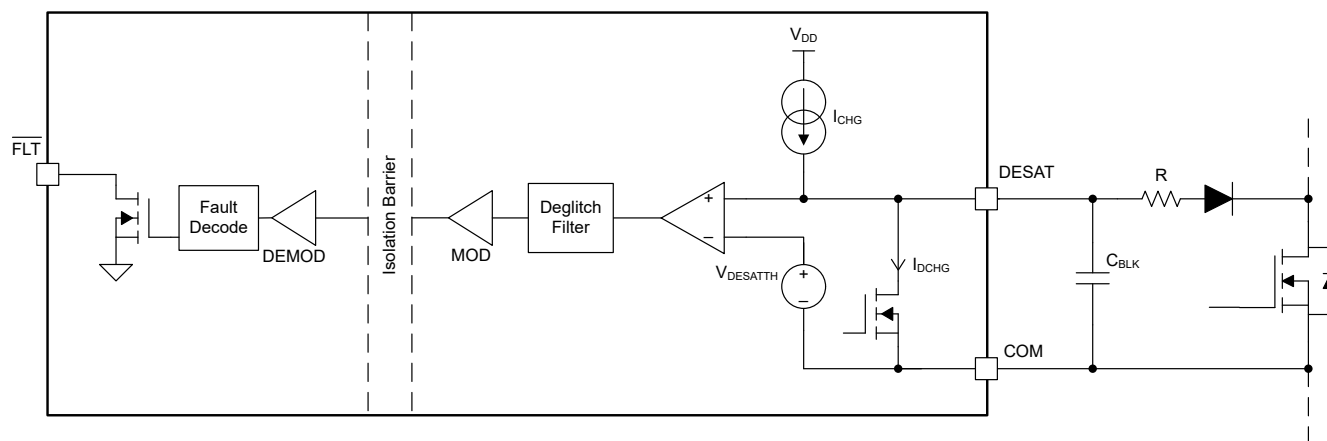
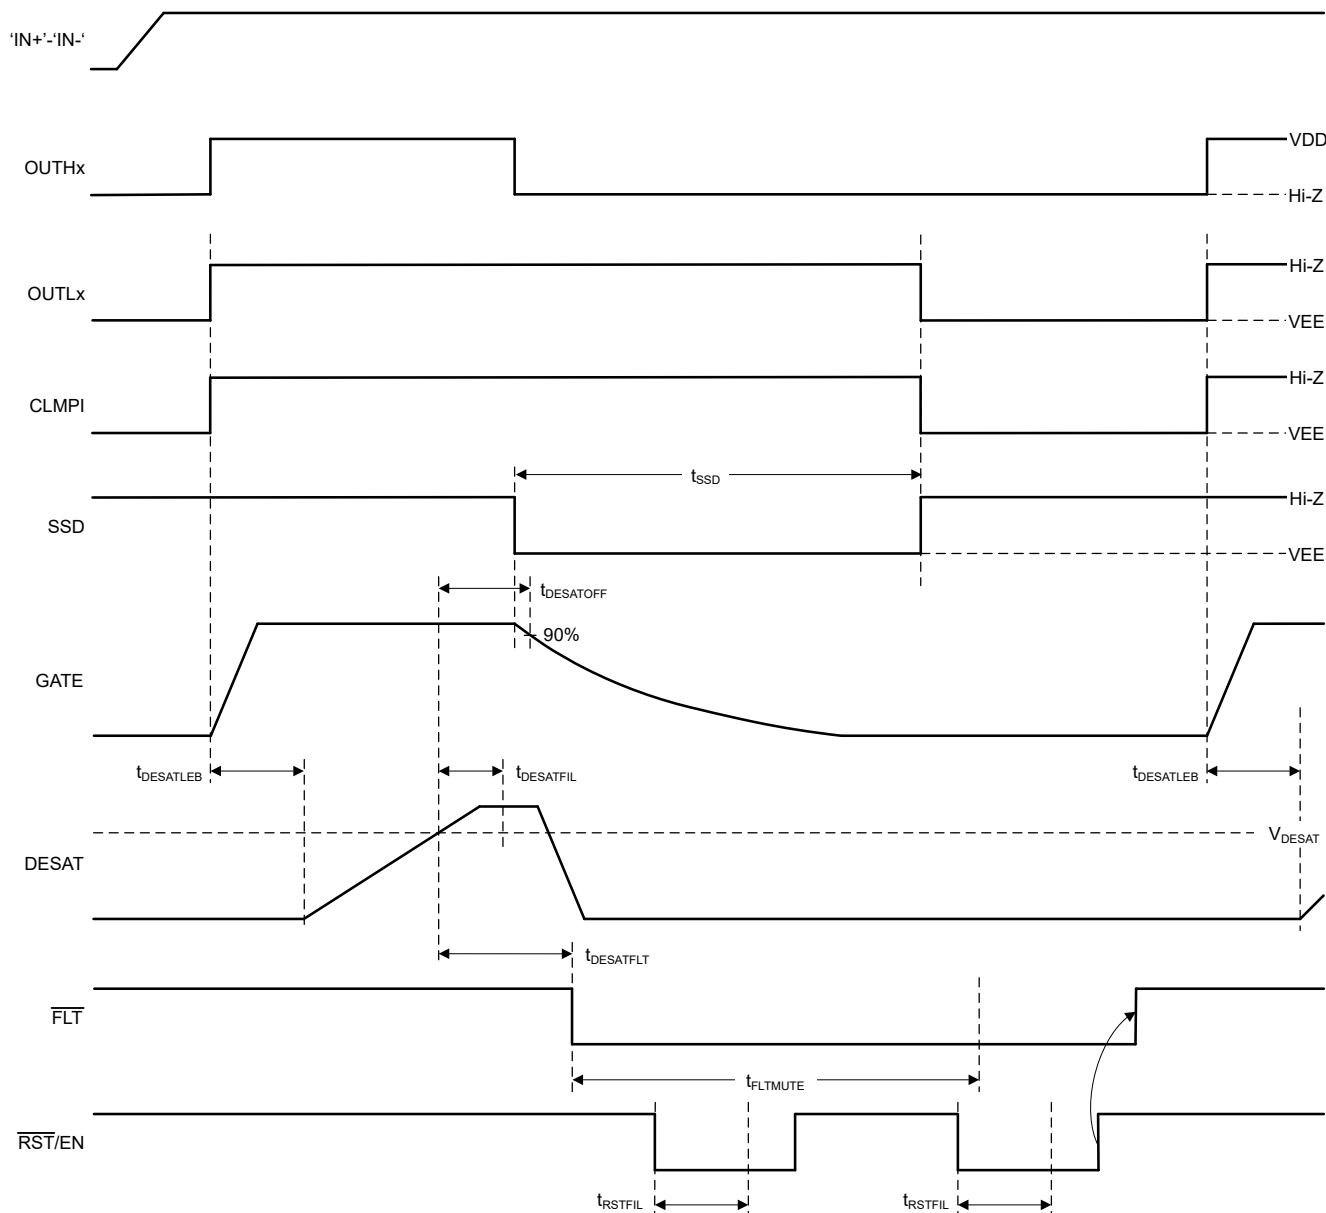
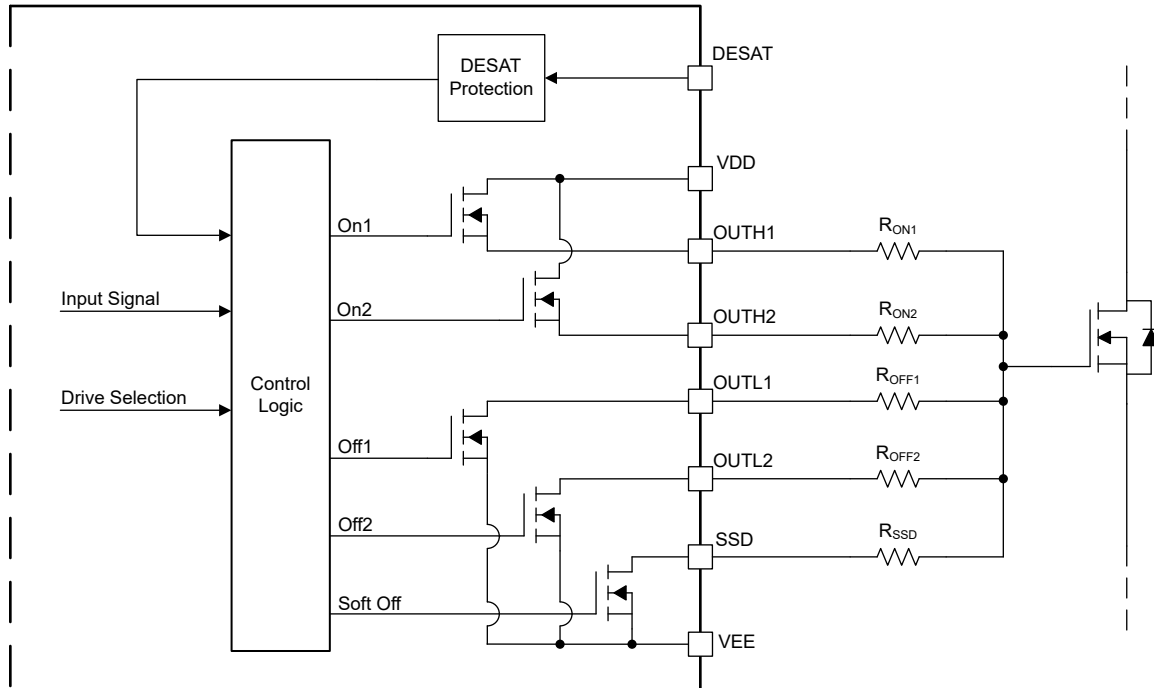

Figure 6-9. DESAT Protection
Figure 6-10. DESAT Protection Timing Diagram with Soft Shutdown
Figure 6-11. Soft Shutdown
The UCC218302-Q1 implements a fast overcurrent and short-circuit protection feature to protect the power semiconductor device from catastrophic breakdown during a fault. The DESAT pin threshold, V_{DESATTH} , is with respect to COM, the source or emitter of the power semiconductor device. When the driver is in the off state, an internal MOSFET pulls down the DESAT pin to prevent DESAT from false triggering. When the driver is in the on state, an internal current source activates to charge an external capacitor. The UCC218302-Q1 features an internal leading edge blanking time after OUTHx switches to the on state to avoid false triggers from noise during the switching transient. During the leading edge blanking time period, the DESAT pin is pulled-down by the internal pulldown MOSFET. When the driver turns off, the internal pulldown MOSFET discharges the voltage of the DESAT pin. Figure 6-9 shows a simplified block diagram of the DESAT circuit. Figure 6-10 shows timing diagrams showing a DESAT fault, soft shutdown, fault reporting, and fault reset.
When detecting a DESAT fault, the UCC218302-Q1 initiates a soft shutdown (SSD) to protect the power semiconductor device. When an overcurrent or short circuit event occurs, the SSD feature slowly discharges the gate voltage to limit the overshoot voltage on the switching device created by high di/dt due to the channel current. A tradeoff occurs between the overshoot voltage and the short-circuit energy. The turn-off speed must be slow enough to limit the overshoot voltage, but the shutdown time must not be too long that the large energy dissipation in the device can cause breakdown. The UCC218302-Q1 provides an internal pulldown FET that can be used with an external resistor to optimize the discharge current of the gate. When a DESAT fault is detected, OUTHx and OUTLx are Hi-Z so that the gate is not driven by the main driver outputs. The internal pulldown MOSFET on the SSD pin turns on for t_{SSD} to let the gate discharge. After this time, CLMPI and OUTLx are driven low to hold the power semiconductor device off. Figure 6-11 shows a simplified block diagram and Figure 6-10 shows a timing diagrams.
- To reset the DESAT fault signaled on the $\overline{\text{FLT}}$ pin. If the $\overline{\text{RST/EN}}$ pin pulls low for more than t_{RSTFIL} after the mute time t_{FLTMUTE} , then the fault signal is reset and $\overline{\text{FLT}}$ returns to a high-impedance state upon the next rising edge applied to the $\overline{\text{RST/EN}}$ pin. Figure 6-10 shows a timing diagram.